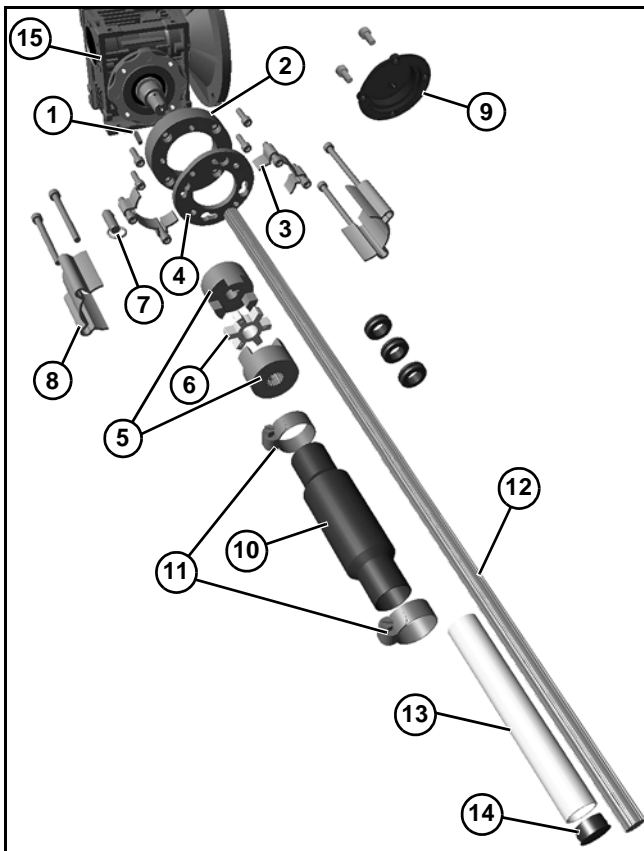

Figure 11
1. Gather installation components (**Figure 11**)